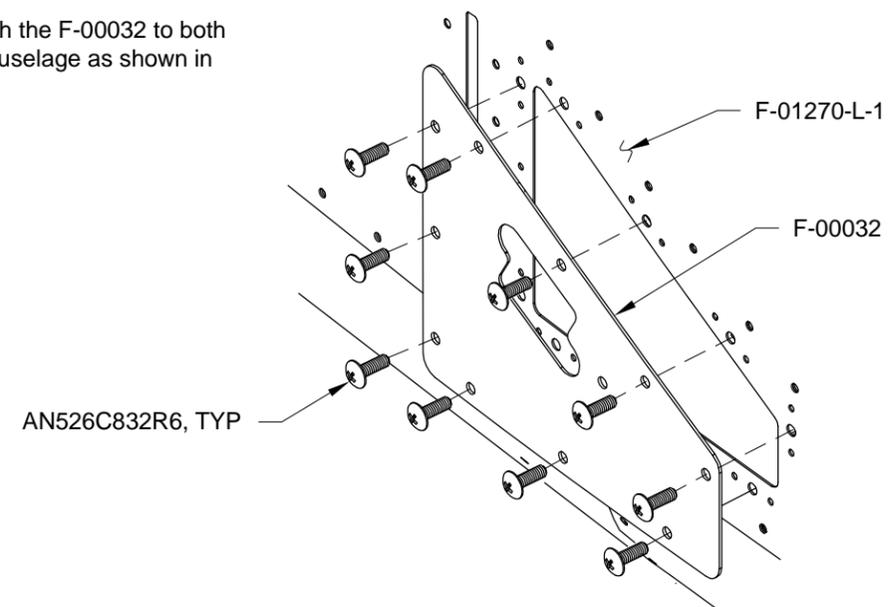

FIGURE 4: ATTACHING THE FUSELAGE SIDE COVERS
Step 7: Attach the F-00032 to both sides of the fuselage as shown in Figure 4.